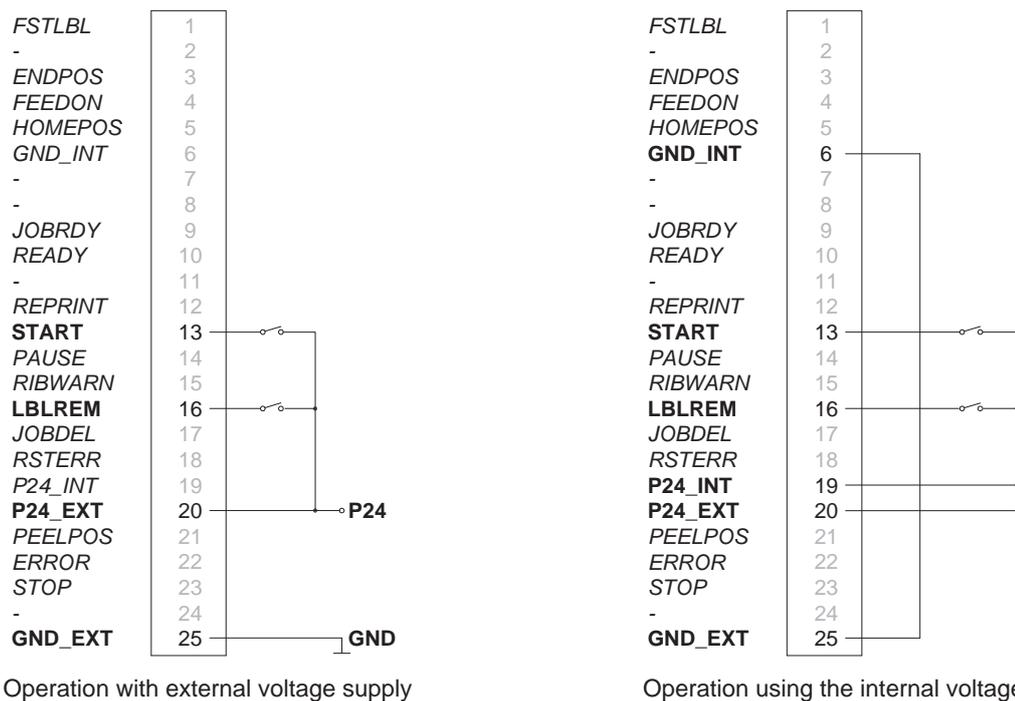

Figure 7 External circuit for peeling-off on demand without present sensor with two signals
- External circuit as shown in Figure 7